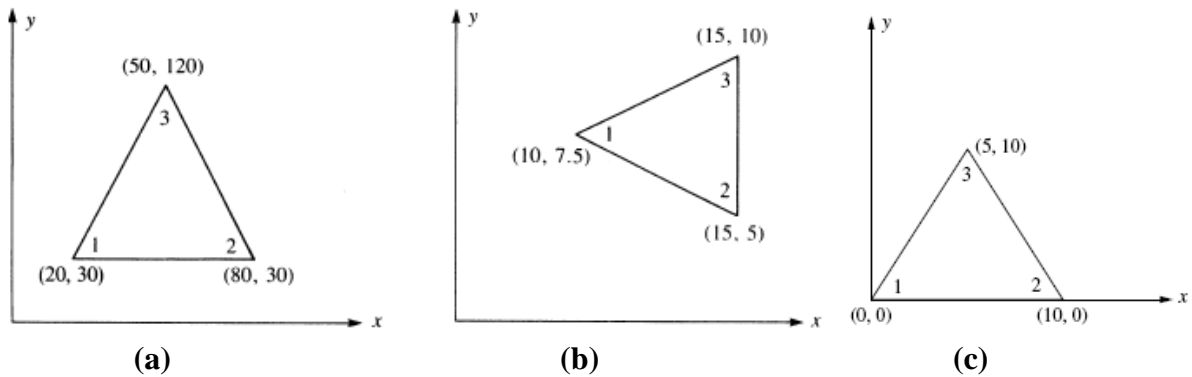

Figure P8.3
3. Evaluate the stiffness matrix for the elements shown in **Figure P8.3**. The coordinates are given in units of millimeters. Assume plane stress condition. Take $E = 210$ GPa, $\nu = 0.25$ and $t = 10$ mm.